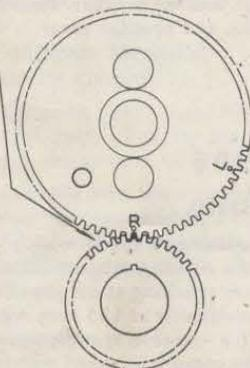

Figure 13—Relation of Timing Marks
(1) There are two breaker cam keyways located on the magnet shaft extension of the standard rotating magnet used in the VMN7D, VMN7DF5 and VMN7DF magnetos. One keyway is marked (R) and the other (L). Place the cam key in keyway marked (R) for clockwise rotation or in keyway marked (L) for counterclockwise rotation.
(2) Secure cam in position using keyway marked (D) for clockwise rotation and keyway marked (G) for counterclockwise rotation.
(3) Recharge magnet using the No. 11-1301 magnet charger which operates on 110 volts dc or the No. 11-1302 magnet charger which operates on 36 volts dc. Clean and inspect the ball bearings. If satisfactory, repack with Specification No. AN-G-5 grease. Make sure that all chips or foreign particles have been removed from the magnet. Place a light coating of oil on the pole pieces of the magnet.
(4) Place the rotating magnet in the front end plate being sure to mesh the chamfered tooth of the small distributor gear with the tooth on the large distributor gear marked (R) for clockwise and (L) for counterclockwise rotation. (See figure 13.) Place the housing over the magnet and secure it to the front end plate with the two screws, two lock washers, and four nuts.